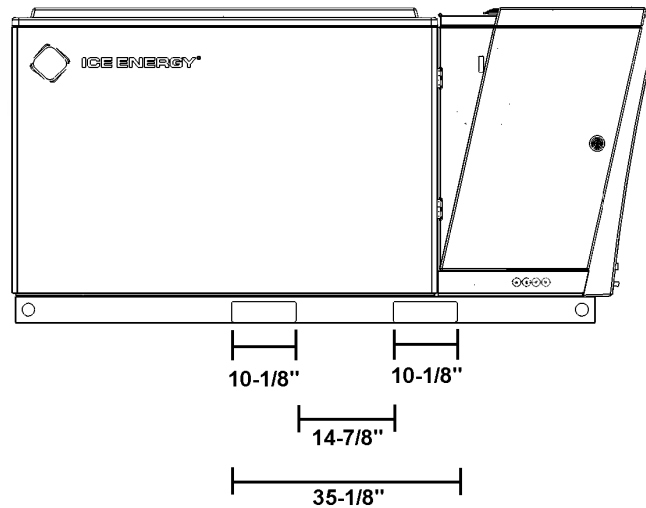

Figure 11 – Ice Bear[®] 30 Unit Forklift Slot Dimensions
- Forklift slots are located on the bottom of the ICE BEAR UNIT. See Figure 11 for dimensions.